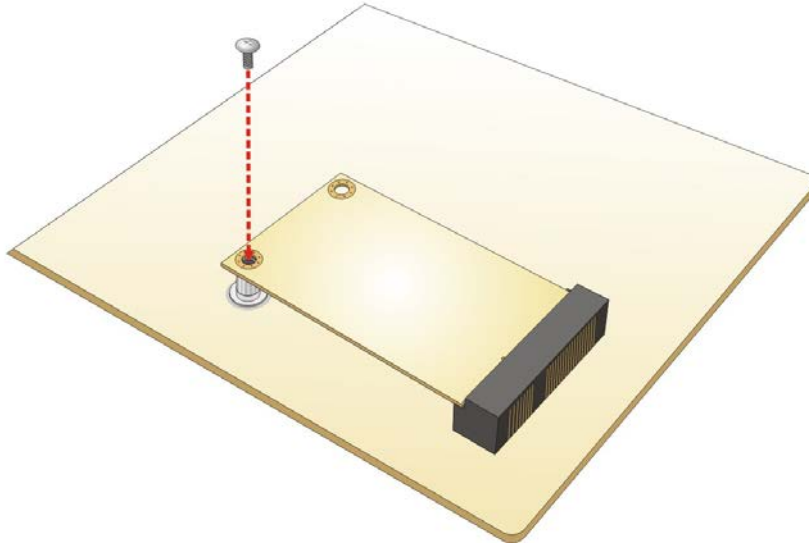

Figure 4-10: Securing the Full-size PCIe Mini Card
Step 4: Secure the full-size PCIe Mini card. Secure the full-size PCIe Mini card with the retention screw previously removed (**Figure 4-10**).